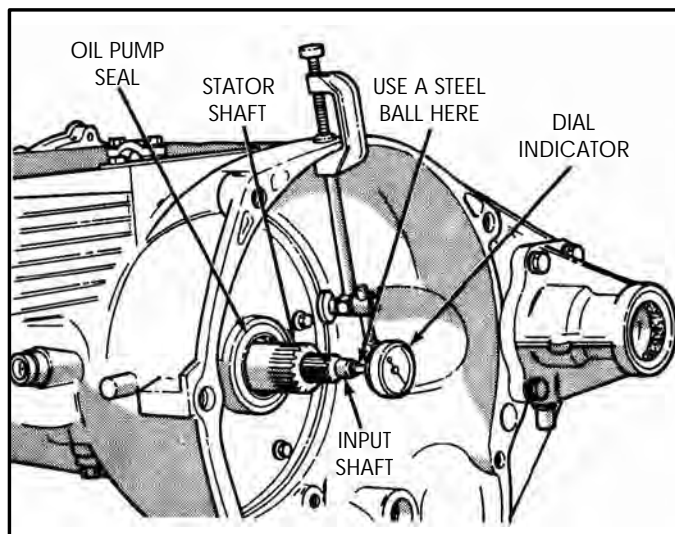

Figure 235
19. Attach a dial indicator to transaxle bell housing with the plunger seated against end of the input shaft, as shown in Figure 235, and zero the dial indicator.